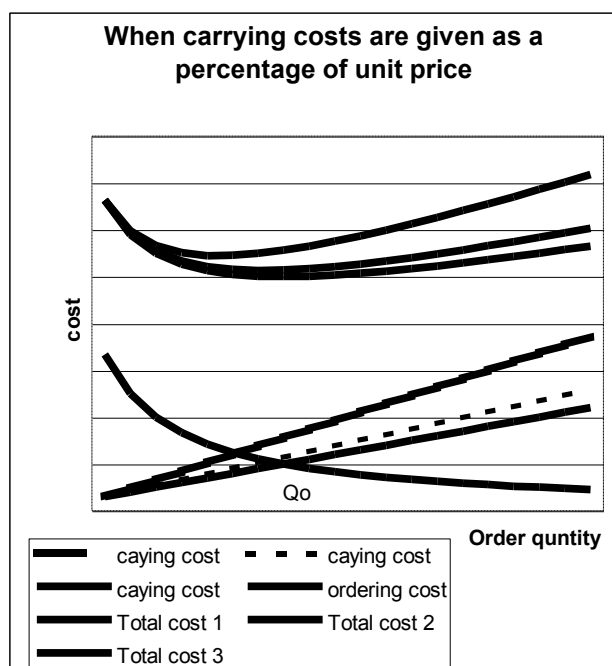

Fig. 3. When carrying costs are given as a percentage of unit price
- When carrying costs are specified as a percentage of unit price, each curve will have a different EOQ. Since carrying costs are a percentage of price, lower prices will mean lower carrying costs and larger EOQs. (figure 3.)